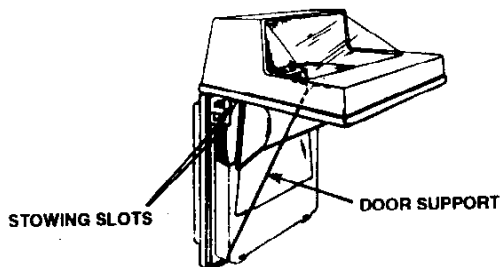

FIGURE 6
2. Locate door support along the left edge of the reflector (Figure 6.) Pull support out and insert end into molded-in hole provided inside front cover at bottom edge of lens.